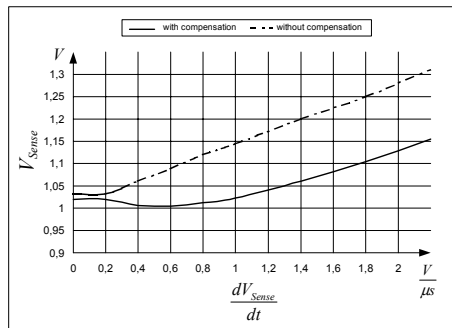

Figure 13 Overcurrent Shutdown
E.g. $I_{peak} = 0.5A$ with $R_{Sense} = 2$. Without Propagation Delay Compensation the current sense threshold is set to a static voltage level $V_{csth}=1V$. A current ramp of $dI/dt = 0.4A/\mu s$, that means $dV_{Sense}/dt = 0.8V/\mu s$, and a propagation delay time of i.e. $t_{Propagation Delay} = 180ns$ leads then to an I_{peak} overshoot of 12%. By means of propagation delay compensation the overshoot is only about 2% (see Figure 13).